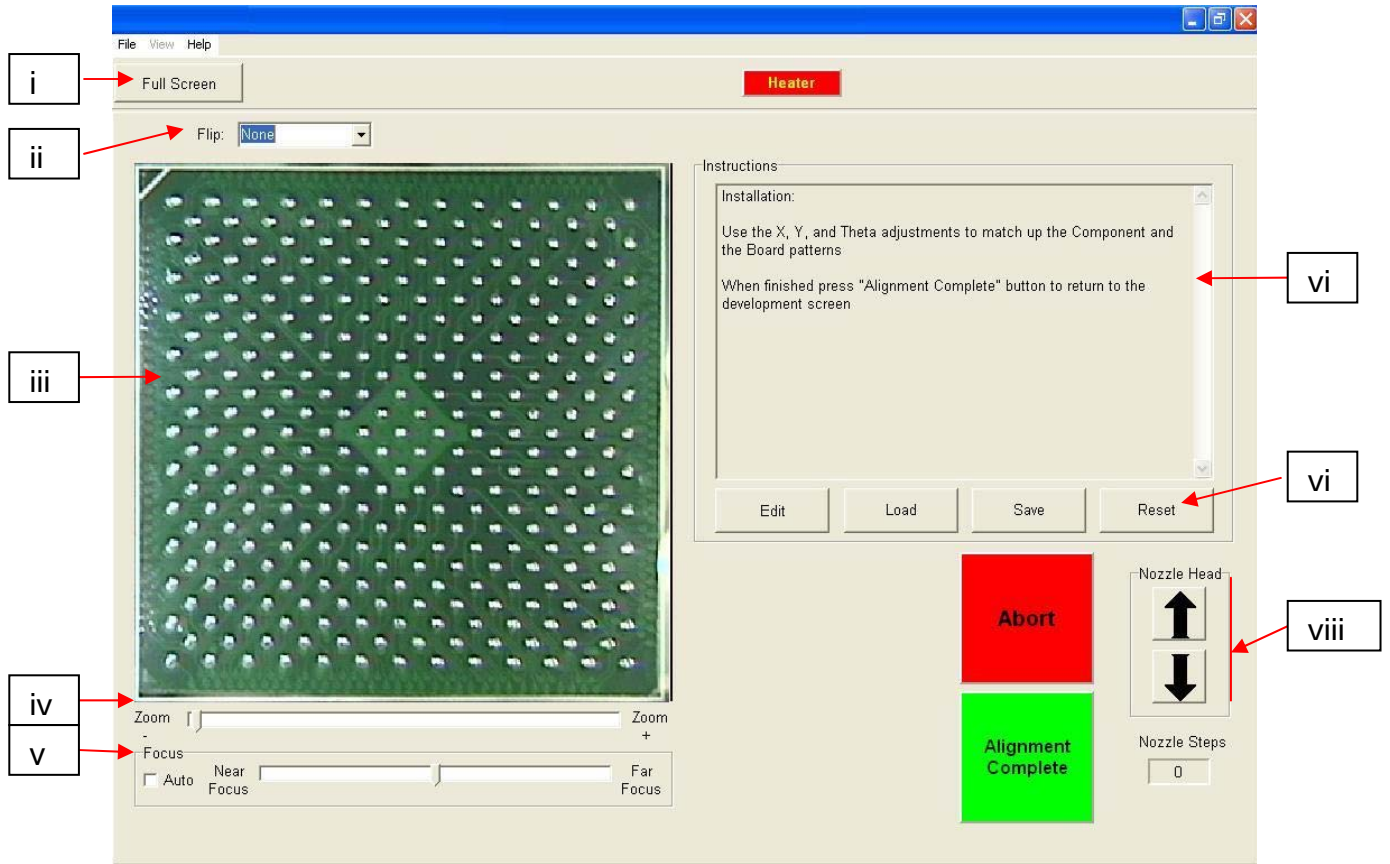

Figure 5
b. Alignment Screen Features (Figure 5)